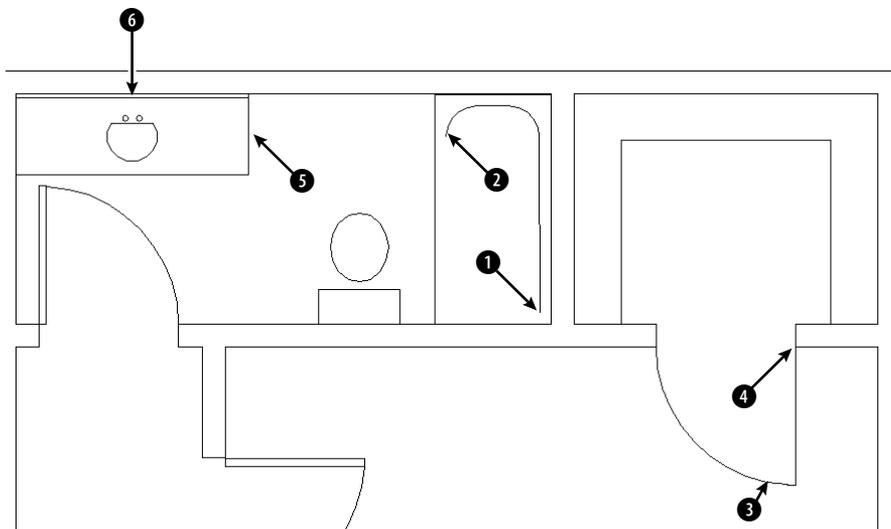
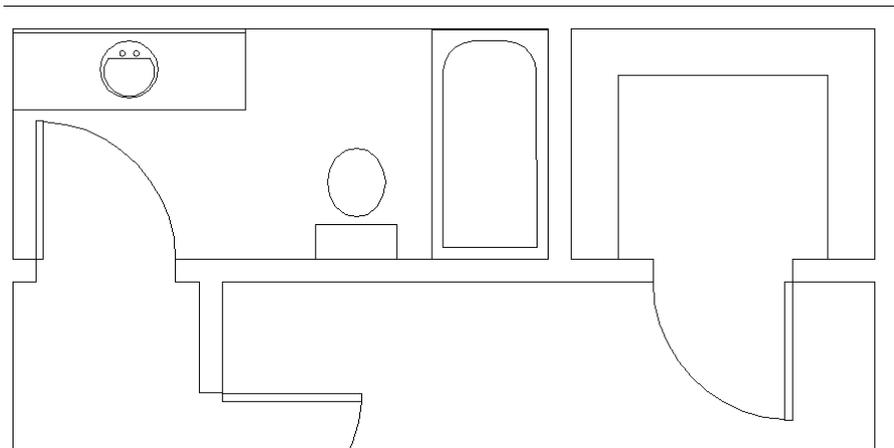

Figure 4-27: The tub, door, and sink to be completed in this plan layout.
Figure 4-28: The completed drawing.
3. Start the LINE command. At the Specify first point: prompt, pick the endpoint at ❶ in Figure 4-27. Be sure to pick on the endpoint itself, in order to acquire it.
4. At the Specify next point or [Undo]: prompt, pass the cursor over ❷. Move the cursor down a little, and you see the small plus sign showing that this endpoint has been acquired.
5. Move the cursor down until it is to the left of ❶ and vertical to ❷. When you see the tooltip (reading Endpoint: < 270°, Endpoint: < 180°) and the small x marking the intersection of the two points, click to end the line segment.
6. At the Specify next point or [Undo]: prompt, click at ❷ and end the LINE command.
7. Start the LINE command again. At the Specify first point: prompt, pick the endpoint of the arc at ❸ in Figure 4-27. If you're not sure that you found the right endpoint, press Tab until the arc is highlighted. Make sure that you've acquired the endpoint by clicking the endpoint itself or passing the crosshairs over it.
8. At the Specify next point or [Undo]: prompt, pass the cursor over ❹ until you see the small plus sign. Move the cursor to the left until you see the tooltip (reading Endpoint: < 90°, Endpoint: < 180°) and click.
9. At the Specify next point or [Undo]: prompt, pick the endpoint at ❹ and end the LINE command.
10. Start the CIRCLE command. At the Specify center point for circle or [3P/2P/Ttr (tan tan radius)]: prompt, pass the cursor over ❺ and then over ❻ to acquire both midpoints.
13. Save your drawing. It should look like Figure 4-28.